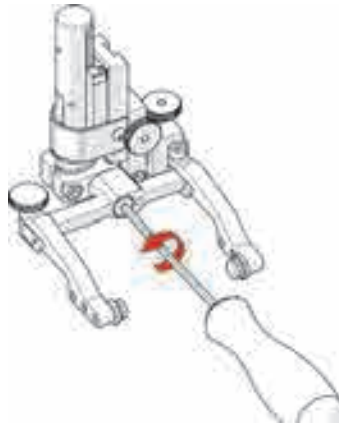

Figure 4-66 Unscrew yoke pivot screw
2. Using the supplied 3 mm hex driver, unscrew the yoke pivot screw and remove the yoke (see Figure 4-66 on page 144).